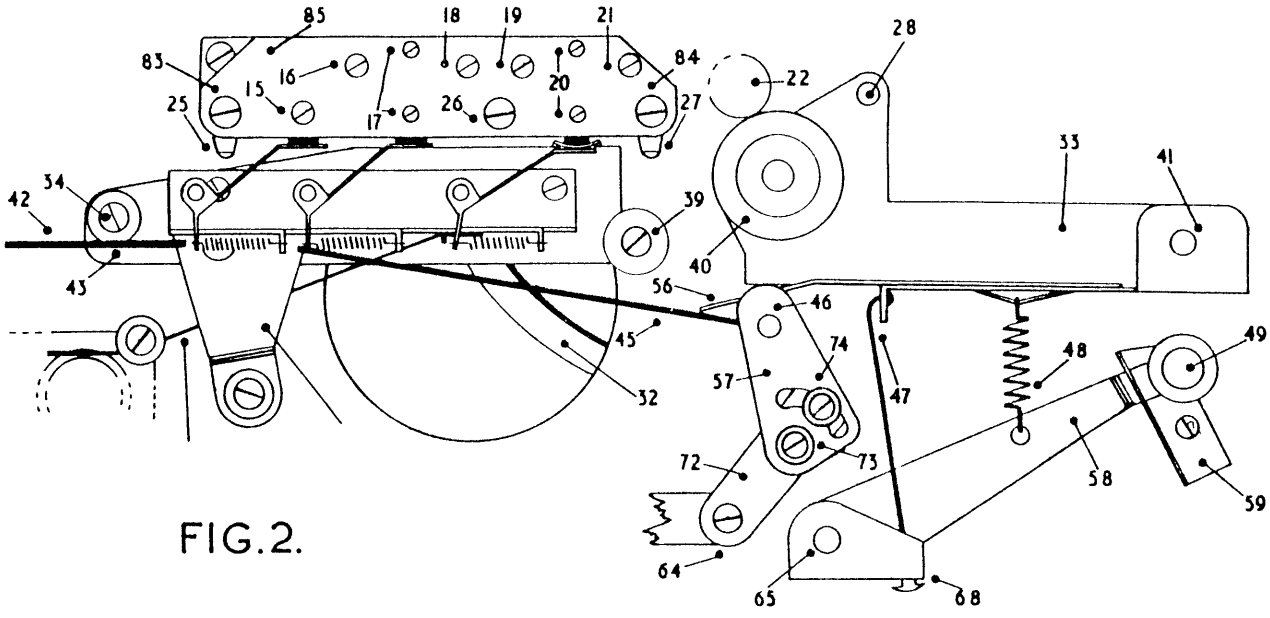

FIG. 2.
- (b) Refer to Fig. 2 and with the Master Control in the Record position, depress the two press switches marked "RECORD". Measure the potential across the two erase head windings at lead-throughs a and c, note that valve-voltmeter readings are as given in the table at (e). Release Left channel RECORD button and note that the voltage across the Right erase winding rises as shown at (e). Depress the Left channel RECORD button, release the Right. Confirm that the Left channel erase voltage is as quoted in the table.